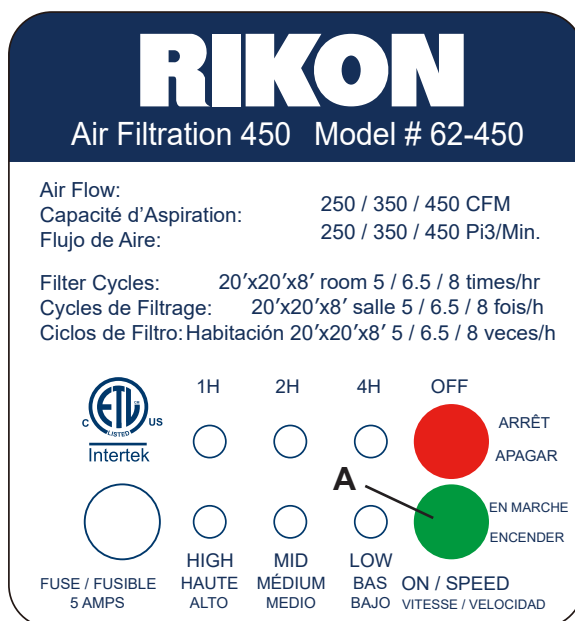
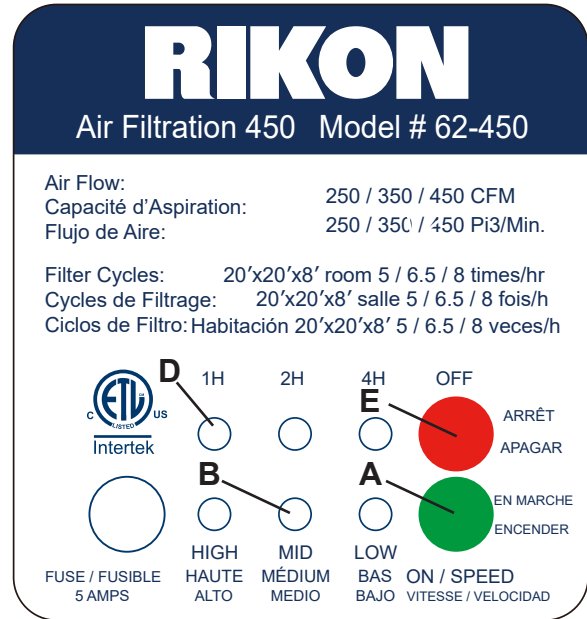
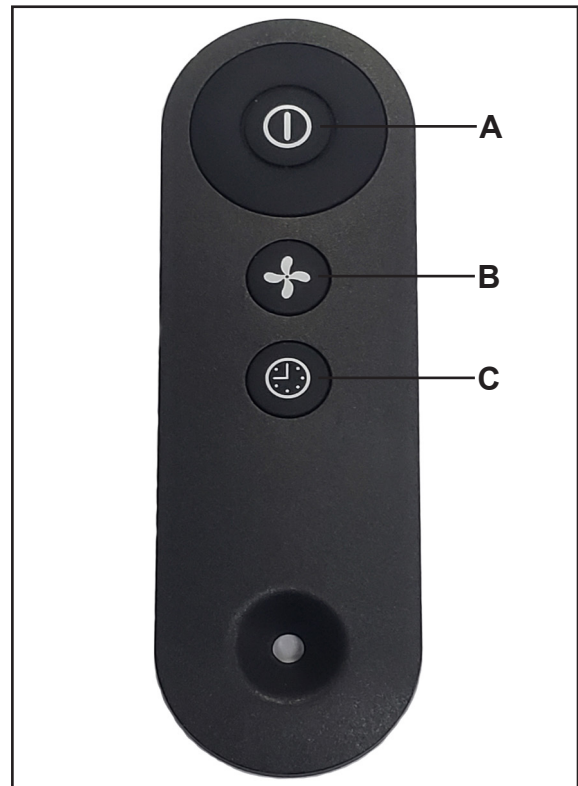

Fig.07
Fig.08
Fig.09
### Turn on the air filter and speed setting (Fig.07 and Fig.08)
## Set the timer (Fig.08 and Fig.09)
1. Press the TIME button (C) on the remote control (Fig.09) to start the timer.
2. Press the TIME button (C) on the remote control again to set the length of operation. The LEDs (D-Fig.08) on the control panel indicate the amount of time selected - 1 hour, 2 hours, 4 hours. Press a fourth time to clear the timer.
To turn off the Air Filter, press the OFF button (E-Fig.08) on the control panel or (A-Fig.09) on the remote control.
## Remote Control (Fig.09)
The air filtration system can also be operated with the supplied infrared remote control. The infrared receiver is located on the main control panel. The remote control has the same functions as the main control panel above in Fig.08. However; the timer can be set ONLY with the remote control. Fig.09, (C).
- ON / OFF button (A)
- SPEED button (B)
- TIMER button (C)